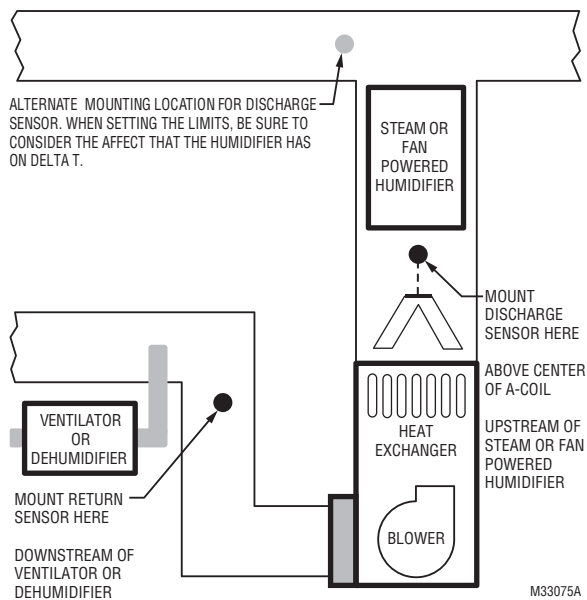

Fig. 11.
2. When possible, mount the Discharge Air Temperature Sensor upstream of a Steam Humidifier, a Fan Powered Humidifier or a Dehumidifier that is ducted to the supply. See Fig. 11–12.
3. If space does not allow a Discharge Air Temperature Sensor upstream of a Steam Humidifier or Fan Powered Humidifier, mount the Discharge Air Temperature Sensor downstream of the Humidifier. See Fig. 11. When setting the Delta T Limits (see “Set Delta T Limits” on page 87), be sure to consider the affect that the humidifier has on Delta T.